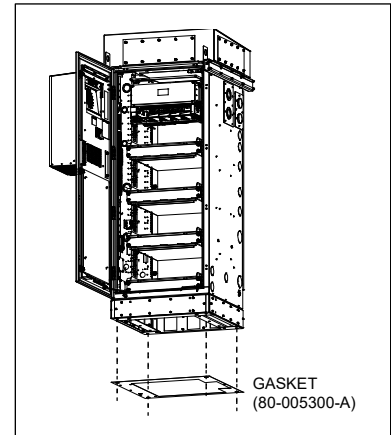

Figure 6 Gasket Installation
3. Install the gasket by positioning it on the pad so that it is underneath the bottom of the CUBE when the cabinet is installed. Line up the gasket so that the cutouts are in proper position around the conduit opening and the bolt holes as shown in Figure 6.